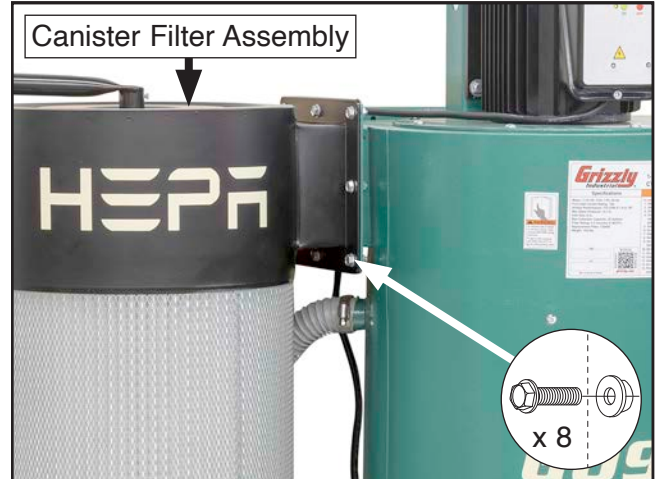

Figure 61. Location of canister filter assembly fasteners.
4. Remove (8) flange bolts and (8) flange nuts, then with assistance remove filter assembly (see **Figure 61**).